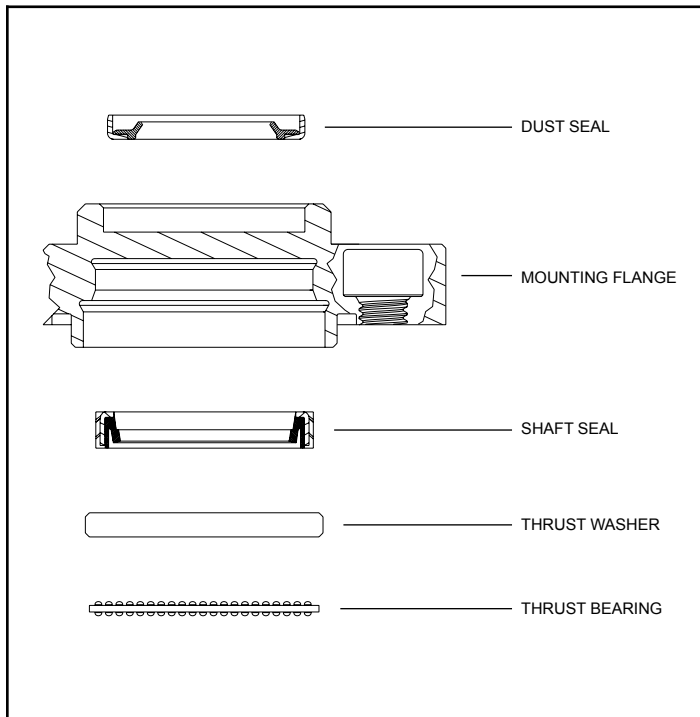

FIGURE 1 - MOUNTING FLANGE / SHAFT STACK UP
- D) Carefully press shaft seal (3) into place in mounting flange (7) and place thrust bearing (5) and thrust washer (6) onto shaft if they were removed earlier. See Figure 1 for shaft stack-up orientation. Place a new mounting flange seal (2) into groove in mounting flange. Line up flange bolt holes and lower mounting flange assembly over shaft. *Be careful not to nick shaft seal (3) on shaft keyway or pinch the flange mounting seal (2).*
- E) Install three flange mounting bolts (19) hand tight and final torque bolts to 12 ± 1 Nm [106 ± 9 lb-in].
- M) Install new shaft seal (3) into recess in mounting flange on the same side as the mounting flange seal groove and press evenly until it rests against the stop. See Figure 1 for correct seal orientation.
- N) Install new flange mounting seal (2) into groove in mounting flange (7). Place housing (8) in a vise with the side with three holes facing up. Line up the bolt holes and place mounting flange on top of housing (8). Install the three flange mounting bolts (19) hand tight then final torque bolts to 10 ± 1 Nm [88.5 ± 9 lb-in].
- O) Install new dust seal (1) into groove in mounting flange with lip facing up and seat against stop. See Figure 1 for correct orientation. Remove the mounting flange / housing assembly from vise, turn the assembly upside down and resecure in vise.
- P) Install a new body seal (6) into groove in housing (8). Place new thrust washer (4) followed by new thrust bearing (5) into housing cavity making sure both are laying flat against shaft seal (3). Lower shaft (17) into housing cavity. Using a rubber mallet tap the shaft (17) until it flush with with housing surface.